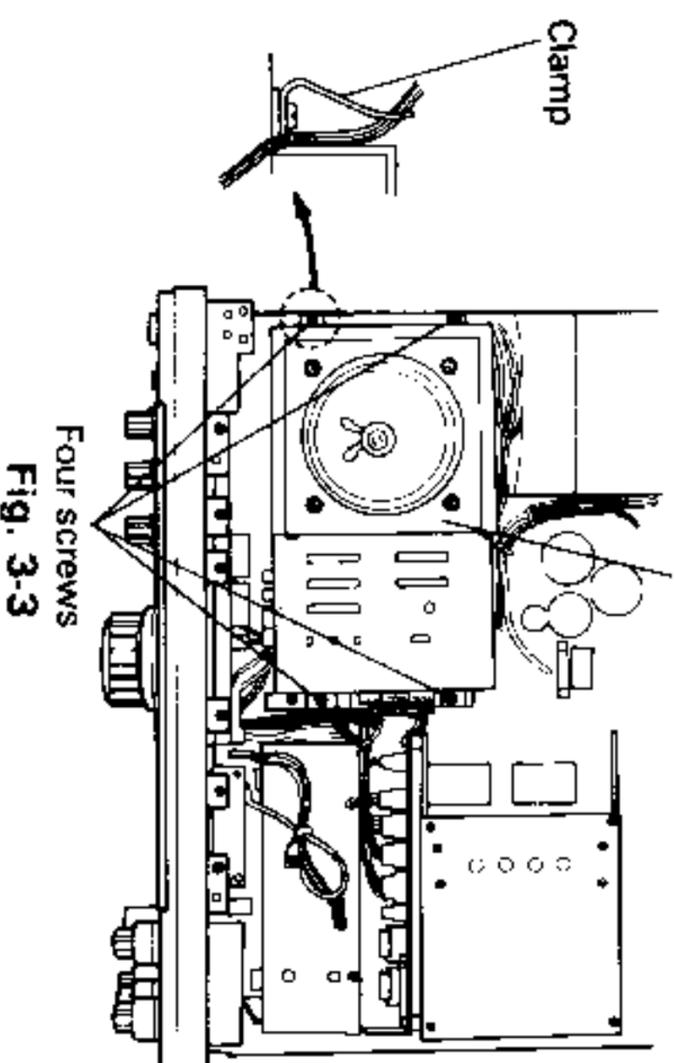
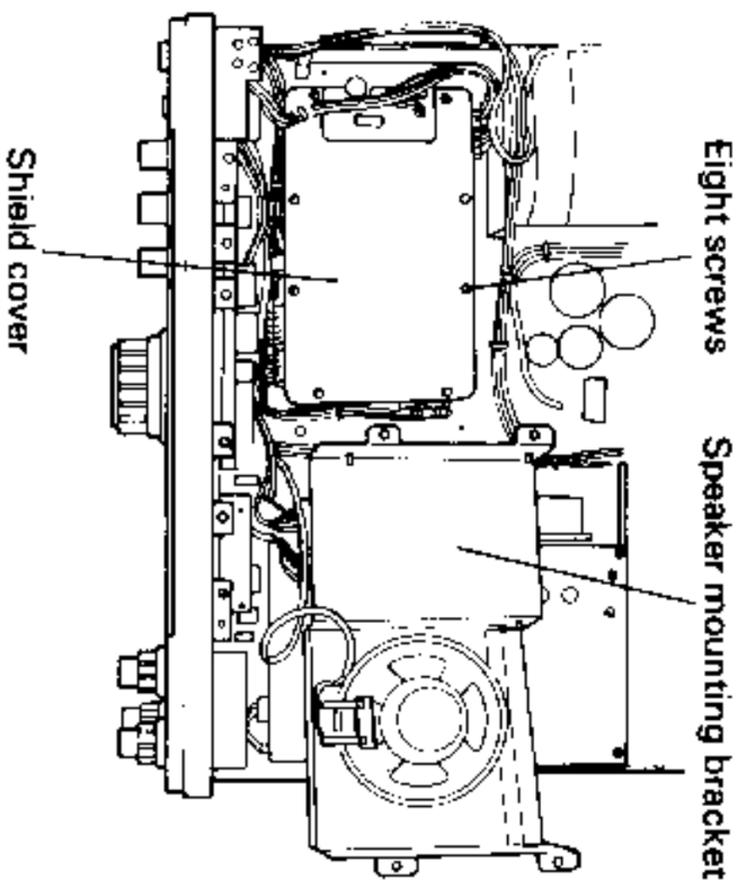

Fig. 3-3
Fig. 3-4
2. Remove the four screws that secure the speaker mounting bracket to the chassis and swing the bracket up towards the AT (antenna tuner) unit. Be especially careful of the wiring harness. Don't stretch the cable harness. (Fig. 3-3, Fig. 3-4)